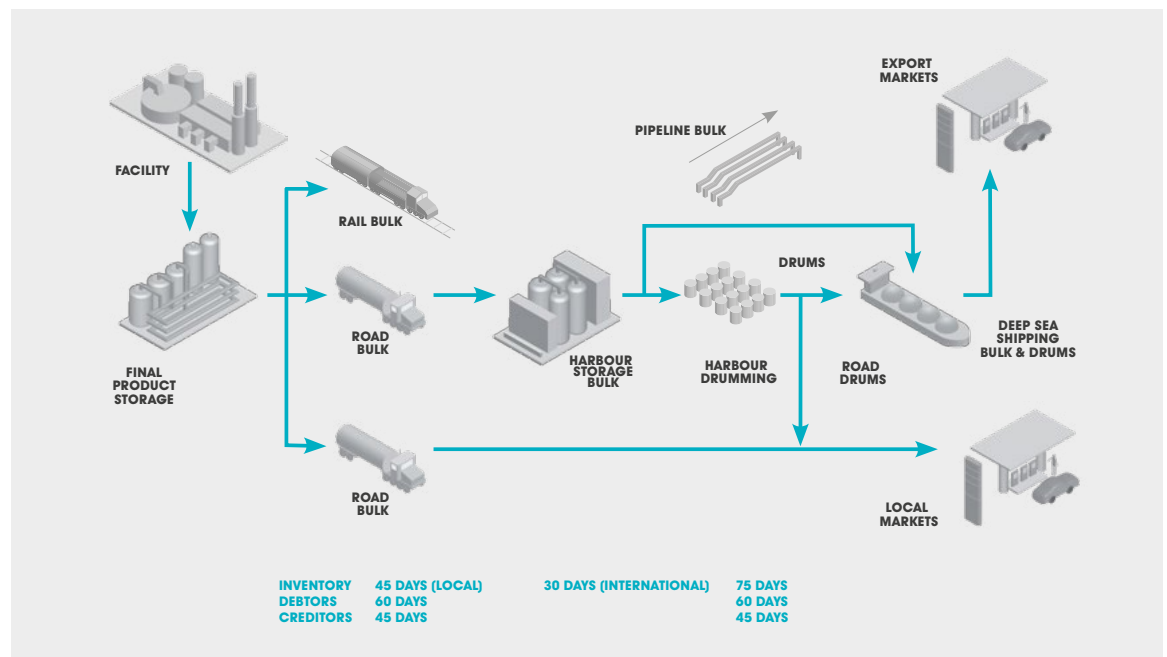

Figure 8 - Working capital
**A calculation of working capital is illustrated below (Figure 8).**